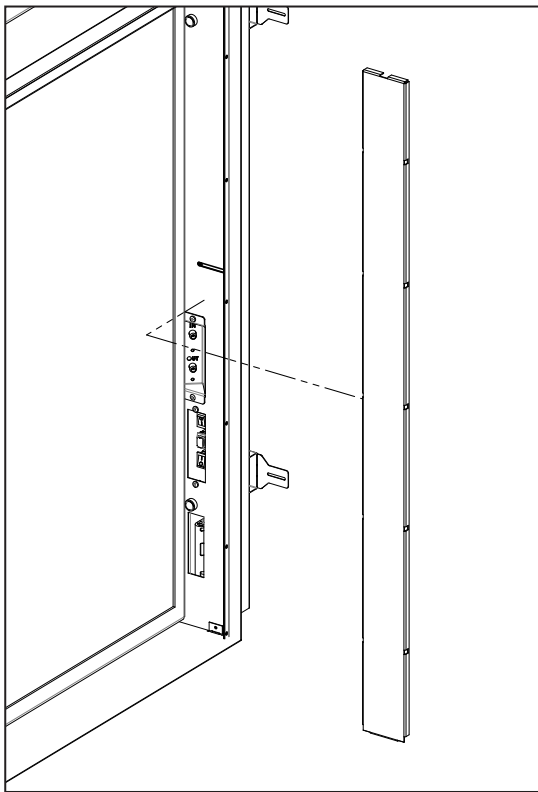

Figure 33: Side Cover Removal
3. On the inside of the cabinet there are two side covers attached via magnets. Gently pull on the side cover until they detach and set them aside (see Figure 33).